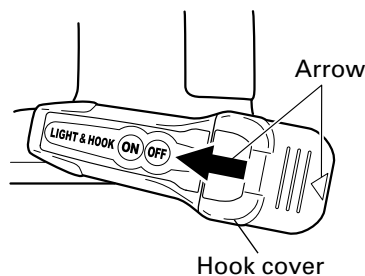

Fig. 14
Remove the hook cover by pushing in the direction of the arrow. (Fig. 14)
- (3) Align the indentation in the hook main body with the protuberance of the hook cover, press the hook cover in the direction opposite to that of the arrow shown in Fig. 14 and then tighten the screw.